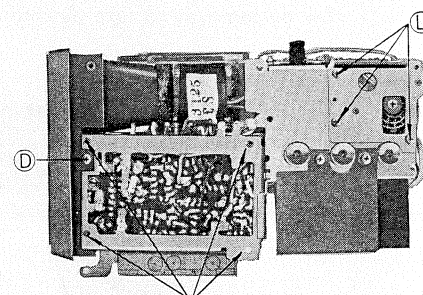
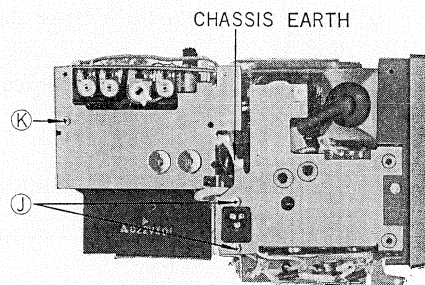

Fig. 3-4
Fig. 3-8
- 1) Remove two screws **D** and two other screws **E** shown in the photo. (Fig. 3-4 & Fig. 3-5)
- 6) Remove the two screws ① shown in fig. 3-8 and then the external power supply connecting terminal.
- 7) Remove the ground wire from the chassis shown in Fig. 3-8. Unsolder the red and black leads of the high-voltage rectifier.
- 8) Remove the one screw ⑫ shown in Fig. 3-8 and the three screws ④ shown in Fig. 3-4. And remove the tuning mechanism.